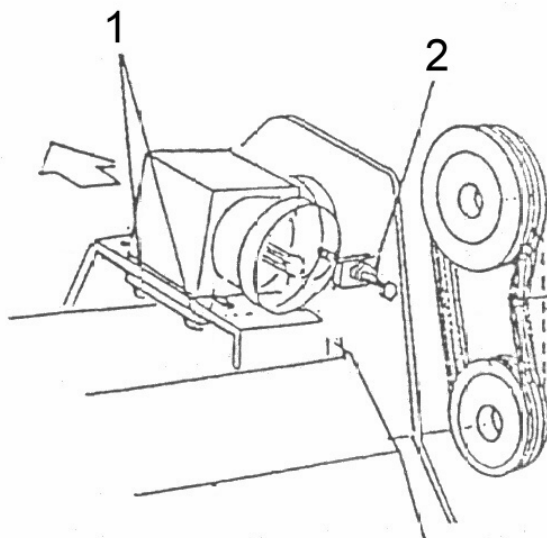

Fig 14
Remove the belt guard; slacken the screws (1) (see Fig 14 below),